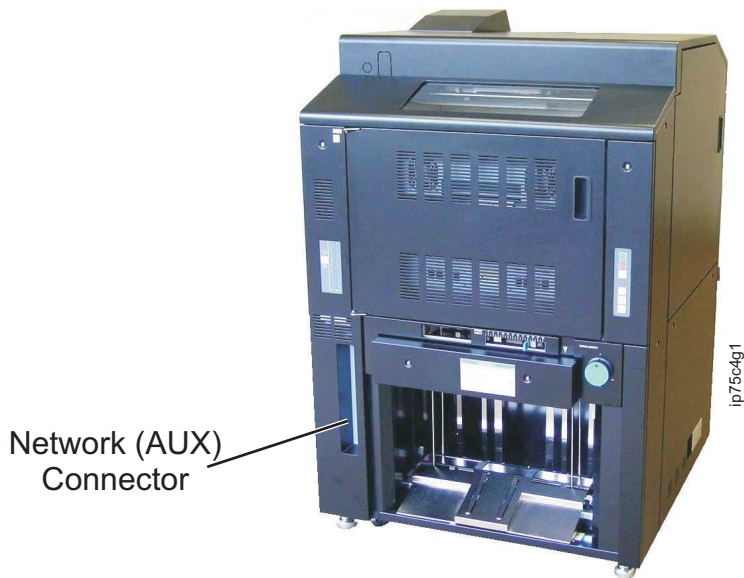

Figure 6. Location of Network Connector
Connect the printer to the network using an unshielded twisted pair (UTP) cable of category 3 or better for 10 BASE-T, category 5 or better for 100 BASE-TX, or category 5e or better for 1000 BASE-T. Figure 6 on page 38 shows the network connector location (10/100/1000B-T connector) on the rear of the printer.
1. Before you power on and configure network settings, connect the Ethernet cable to the Network Connector shown in Figure 6. If the printer is already powered on, power off, attach the connector, and power on.